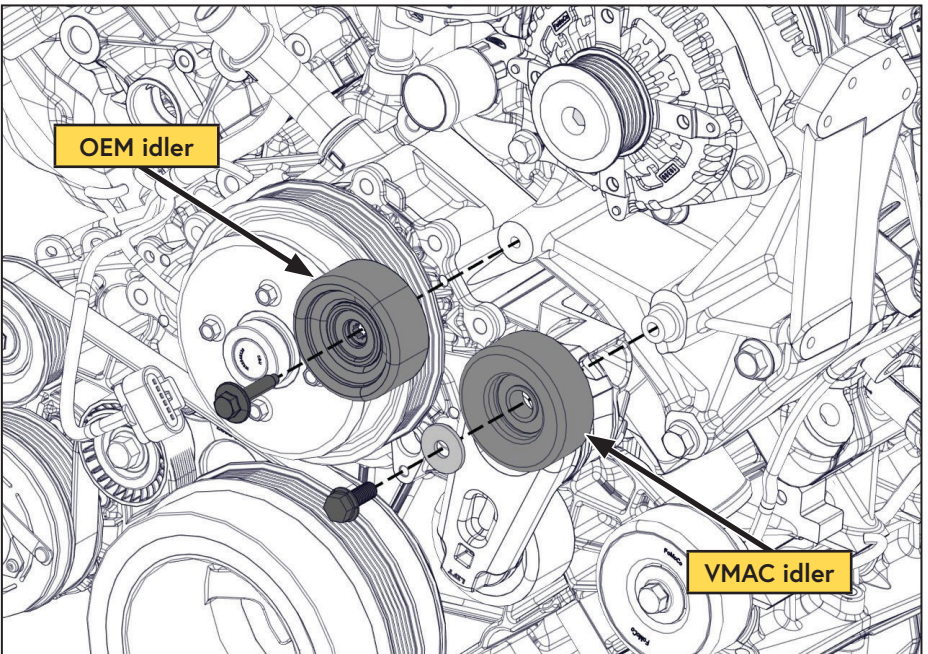

Figure 16 — Install idlers
- Install the OEM, and supplied idlers (Figure 16).